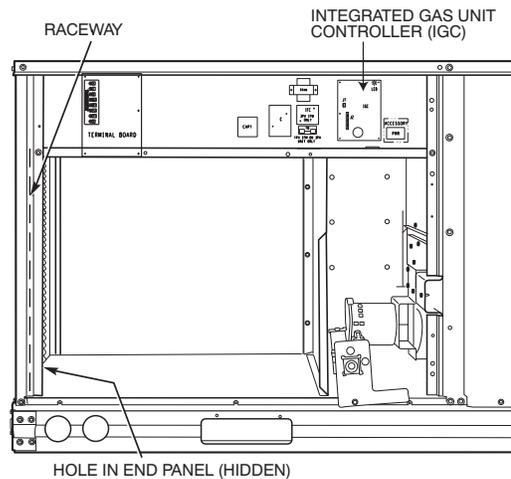
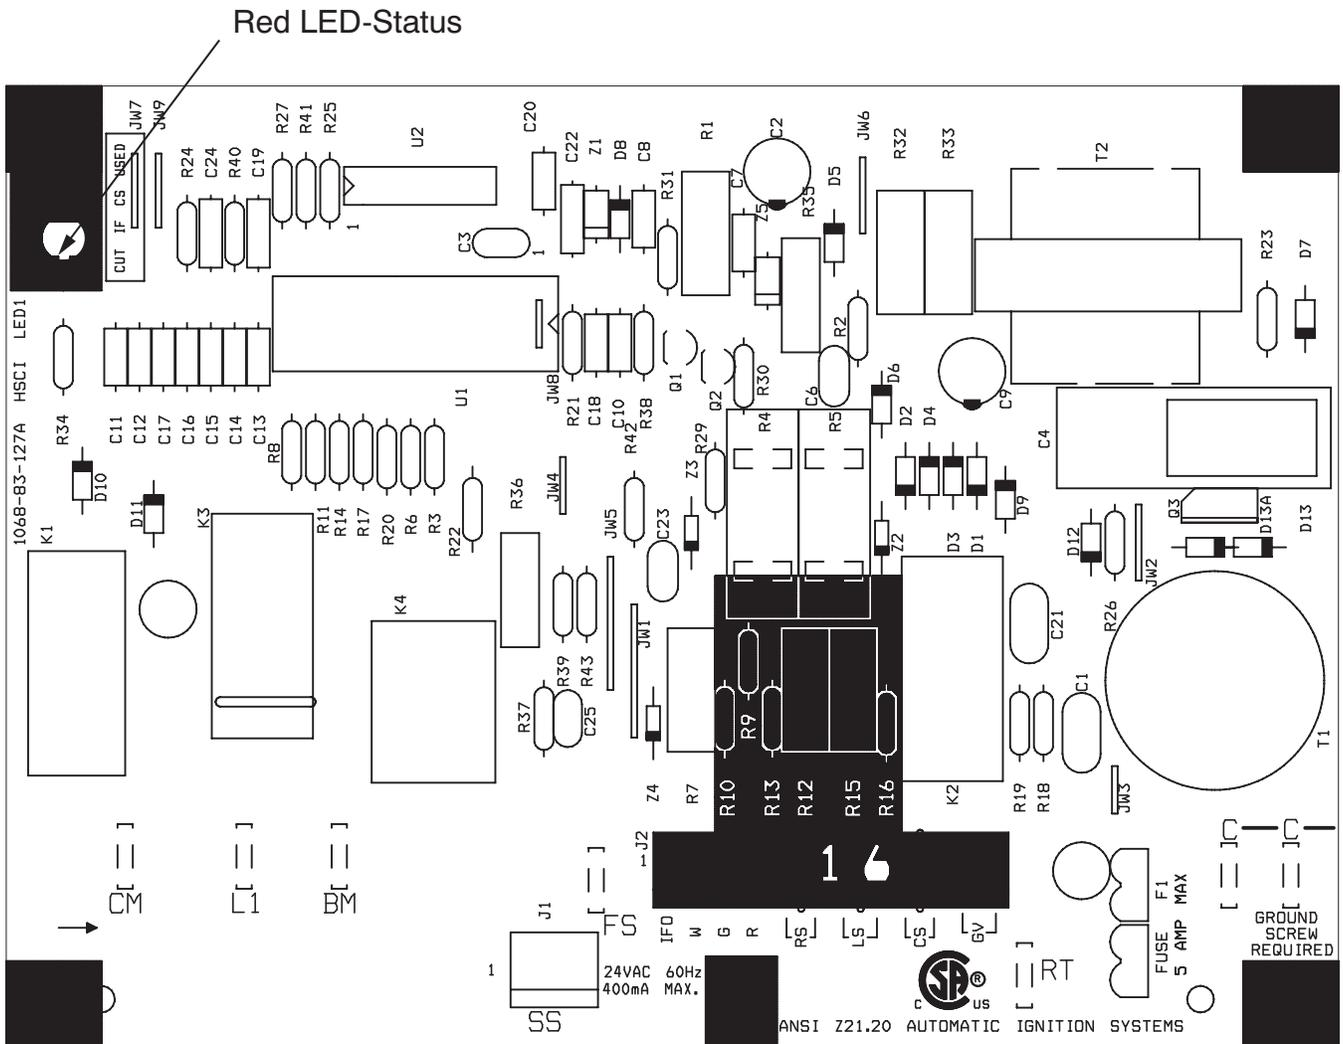

Fig. 34 - Unit Control Box/IGC Location
Fig. 38 - Integrated Gas Control (IGC) Board
6. Remove igniter wires and sensor wires at the Integrated Gas Unit Controller (IGC). (See Fig. 34.)
Unit is equipped with a direct spark ignition 100% lockout system. Integrated Gas Unit Controller (IGC) is located in the control box. See Fig. 34. The IGC contains a self-diagnostic LED (light-emitting diode). A single LED (see Fig. 38) on the IGC provides a visual display of operational or sequential problems when the power supply is uninterrupted. When a break in power occurs, the IGC will be reset (resulting in a loss of fault history) and the indoor (evaporator) fan ON/OFF times will be reset. The LED error code can be observed through the viewport. During servicing refer to the label on the control box cover or Table 8 for an explanation of LED error code descriptions.